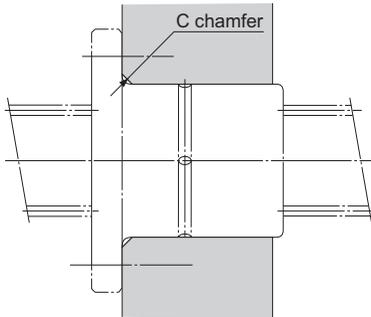

Fig.1
From the diagram of pV values (see Fig. 1 on A-517), it is judged that there will be no abnormal wear if the sliding speed (V) is 13.5 m/min or below against the "p" value of 1.73 N/mm2. Therefore, it is appropriate to select model DPM3560.